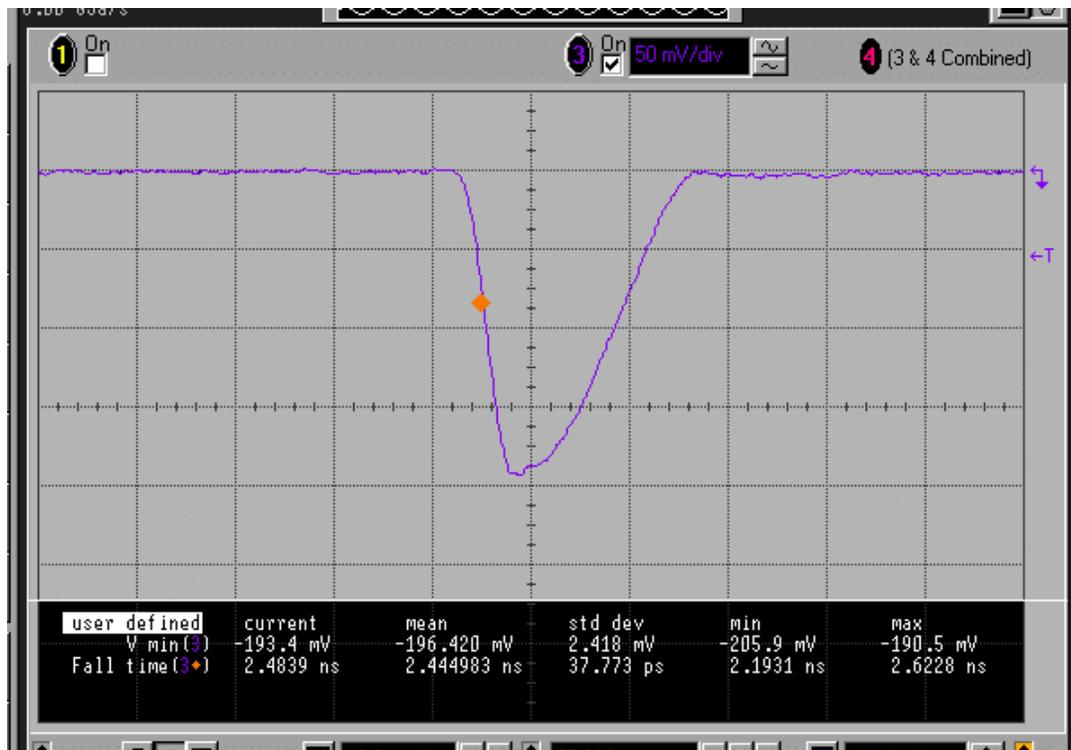
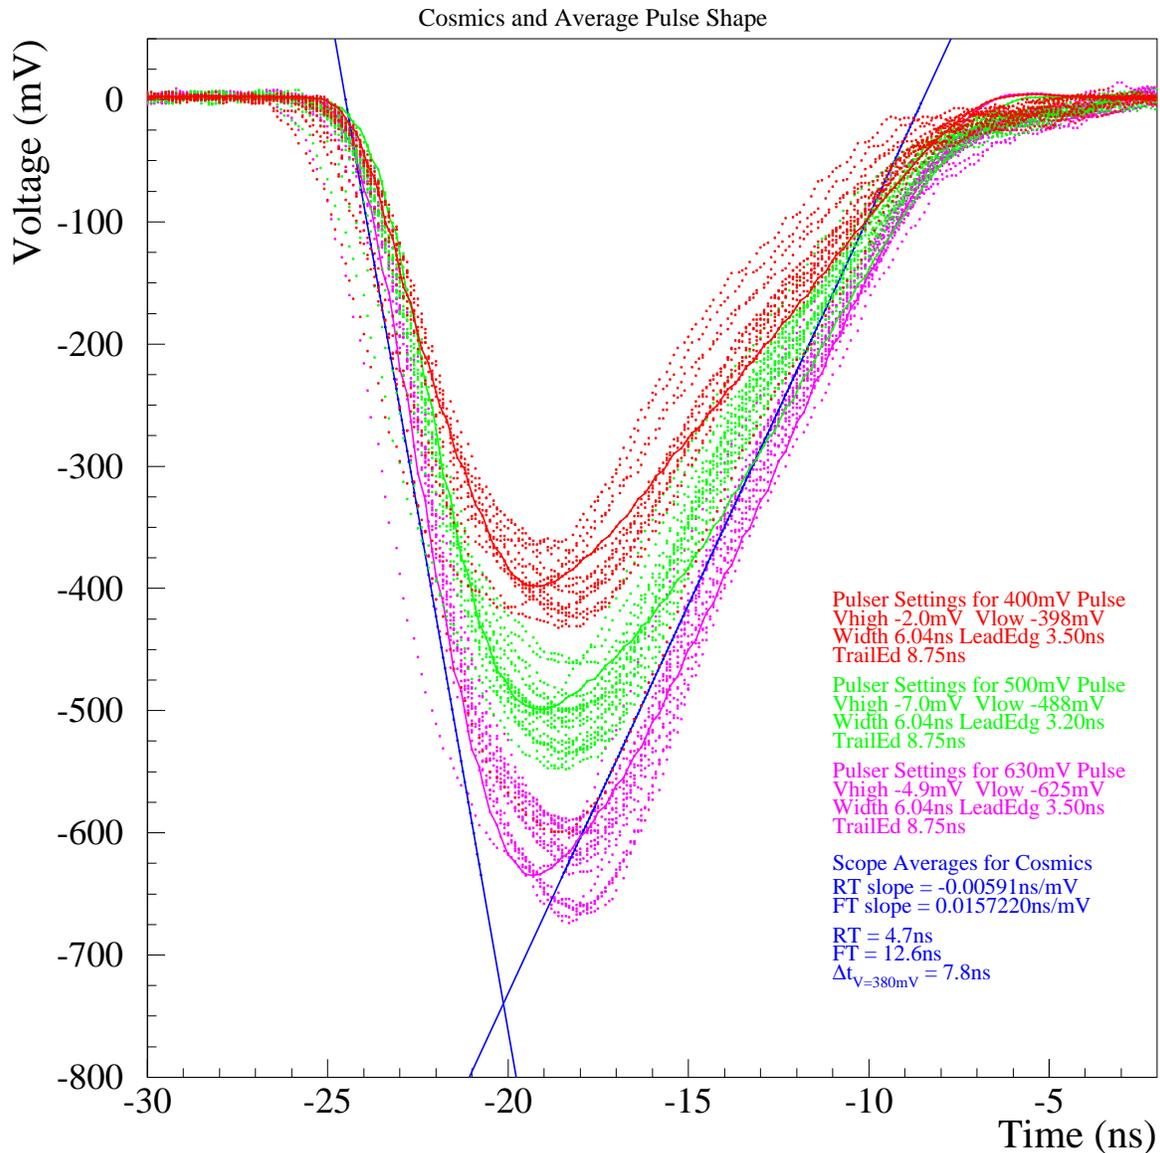

Fig 6a. Scope trace of a "Fake" PMT signal.
Fig 6b. Graph of various sized Cosmics – used to determine pulser settings.
- 413. Using an HP 8110A pulse generator, create a fake PMT signal (see Fig 6a). Pulser settings were determined from comparing cosmics at various voltages (see Fig 6b). Set the pulser as follows: Width 6.04ns, LeadEdg 3.50ns, TrailEdg 8.75ns. The Vhigh and Vlow are determined by what pulse height is desired. Split the signal with a linear fan. With the HP Infinium oscilloscope, measure the PH going into the board. Measure the PH of the output signal of the board for Ch1.